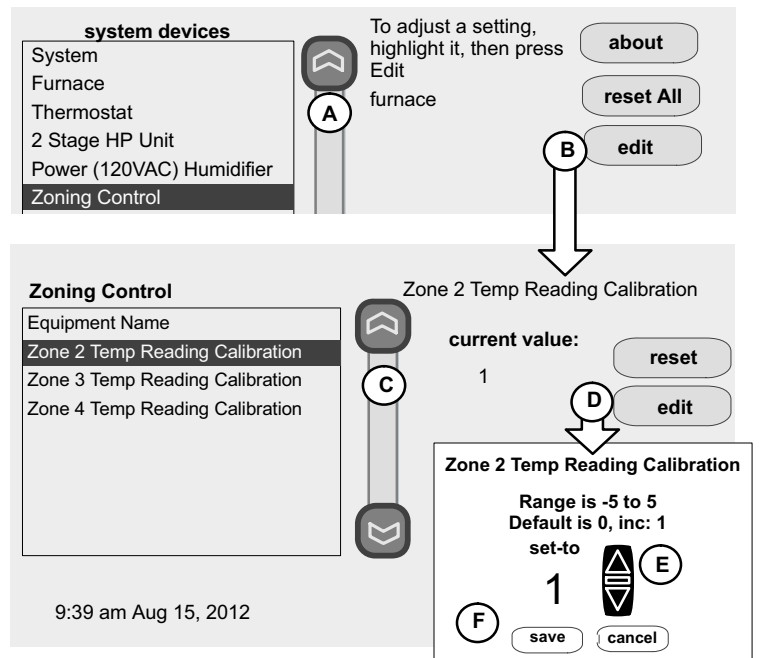

Figure 19. Adjust Zone Temperature Reading Calibration
1. In the “system devices” screen (figure 19), use the arrows (A) to highlight **Zoning Control** and press **edit** (B).
2. Touch one of the options (C) to select “Zone 2 Temp Reading Calibration”. Press edit (D) to continue.
3. Use up or down arrows (E) to change the value.
4. Press **save** (F).